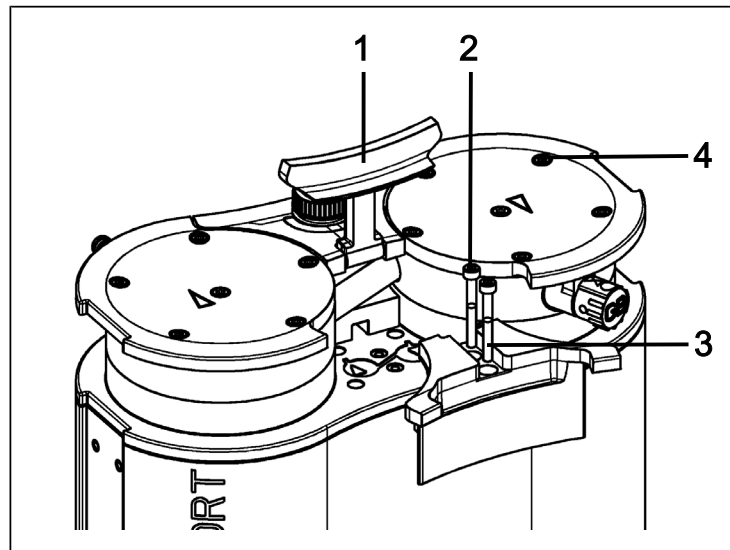

Fig.8: Dismount cover
1. Set the handle (1/Fig. 8) to a vertical position.
2. Loosen the screws (2/Fig. 8) on the cover (3/Fig. 8).
3. Remove the cover (3/Fig. 8).
4. Loosen the external head screws (4/ Fig. 8).
1. Mark the pressure plate (2), head plate (3) and intermediate plate (6) with a continuous pencil stroke. This prevents the parts from being incorrectly mounted later on.
2. Loosen the external screws (4/ Fig. 8) of the pump heads.
1. Move the diaphragms (7) to the center position.
2. Press on the entire perimeter of the diaphragm (7). Only press on the diaphragm (7) on one pump head.
3. Place the intermediate plate (6) with valve plates/seals (4) on the mount according to the pencil line.
4. Place the head plate (3) on the intermediate plate (6) in line with the locating pin (5).
5. Place the pressure plate (2) on the head plate according to the pencil line.
7. Tighten the screw (1) in the center of the pressure plate (tightening torque: 1 Nm).
9. Place the pump heads (consisting of head plate (3), intermediate plate (6) with valve plates/seals (4) and pressure plate (2)) together with the connection tube on the pump housing according to the pencil line.
10. Mount the handle cover (3/Fig. 8).
11. Tighten the screws (2/Fig. 8) of the handle cover (3/Fig. 8) (tightening torque: 2 Nm).